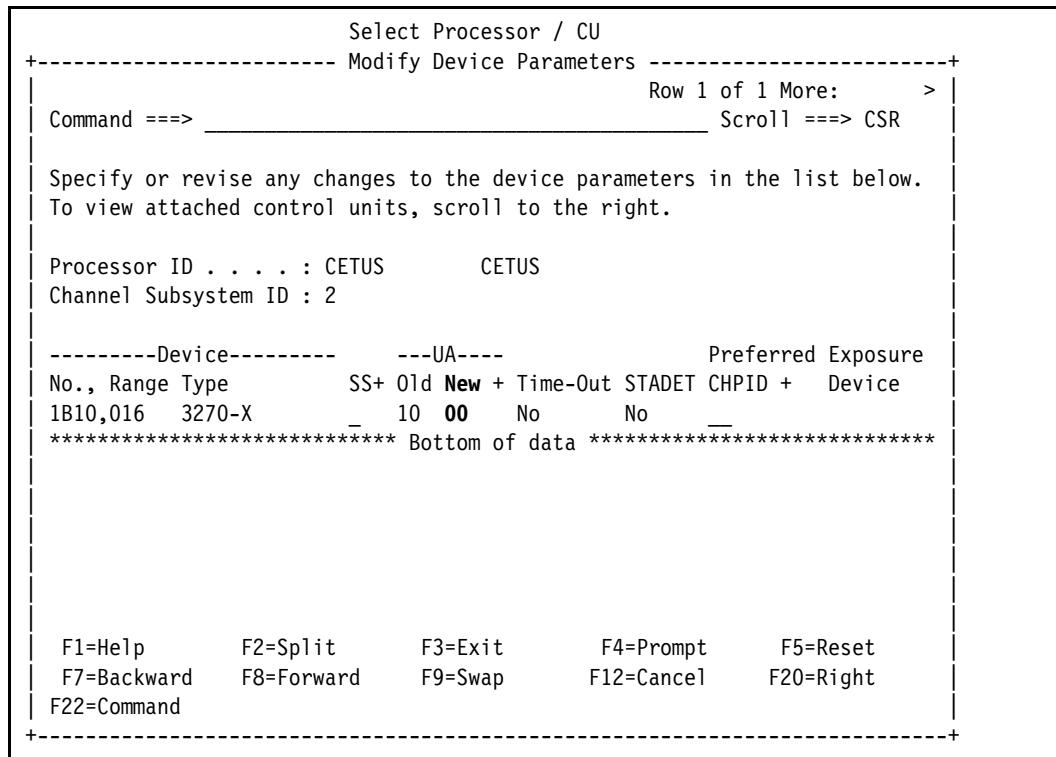

Figure 13-6 Control units: Modify Device Parameters, OSC
7. HCD now shows the Modify Device Parameters panel where you can override the Unit Address (UA) numbers. For most OSA definitions, the Unit address starts at 00.
8. Make the following updates to define the Modify Device Parameters (Figure 13-6), and press **Enter**: